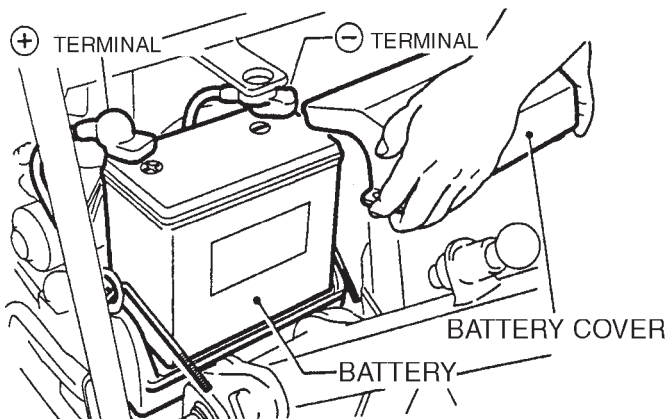

Figure 25. Battery Maintenance
1. Take off the battery cover by removing the M6 nuts (Figure 25).
2. When removing cable, disconnect the ground side (normally negative) first (Figure 25).